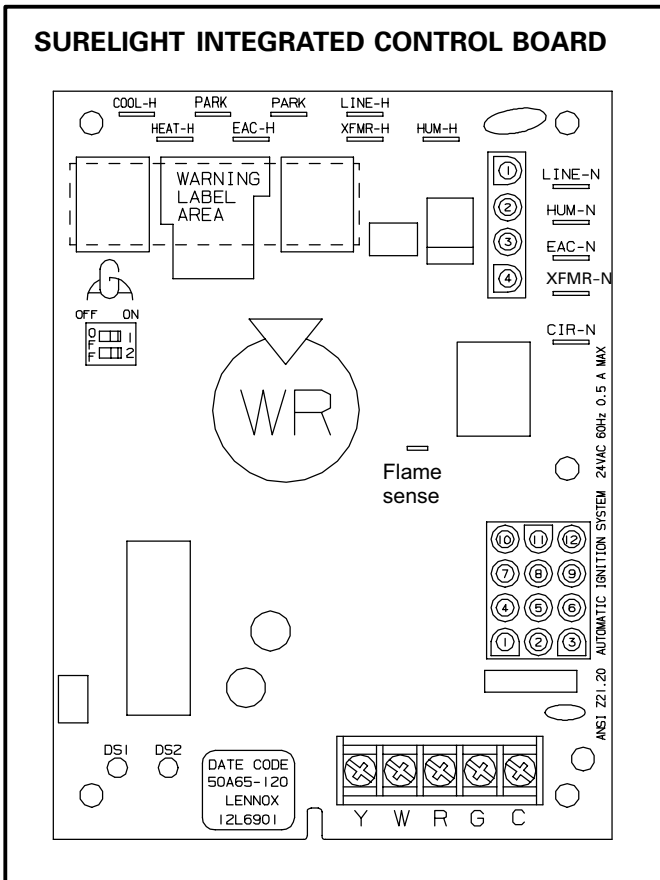
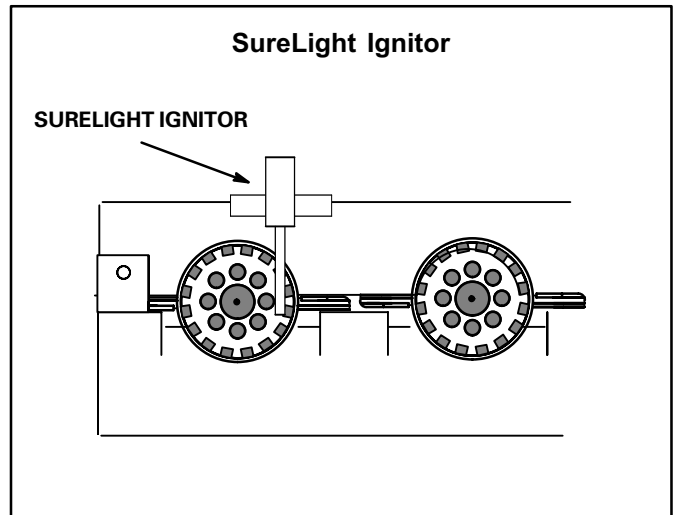

FIGURE 6
FIGURE 7
80UHG-2 and -3 model units are equipped with the Lennox SureLight ignition system. The system consists of ignition control board (figure 6 with control terminal designations in table 4) and ignitor (figure 7). The board and ignitor work in combination to ensure furnace ignition and ignitor durability. The SureLight integrated board controls all major furnace operations. The board also features two LED lights for troubleshooting and two accessory terminals rated at (4) four amps. See table 3 for troubleshooting diagnostic codes. Table 1 and 2 show jack plug terminal designations. Units equipped with the SureLight board can be used with either electronic or electro-mechanical thermostats without modification. The SureLight ignitor is made of durable silicon-nitride. Ignitor longevity is also enhanced by voltage ramping by the control board. The board finds the lowest ignitor temperature which will successfully light the burner, thus increasing the life of the ignitor. Each time power is applied to the furnace, the SureLight board performs a selfcheck including energizing the combustion air blower for a period of 1 second.